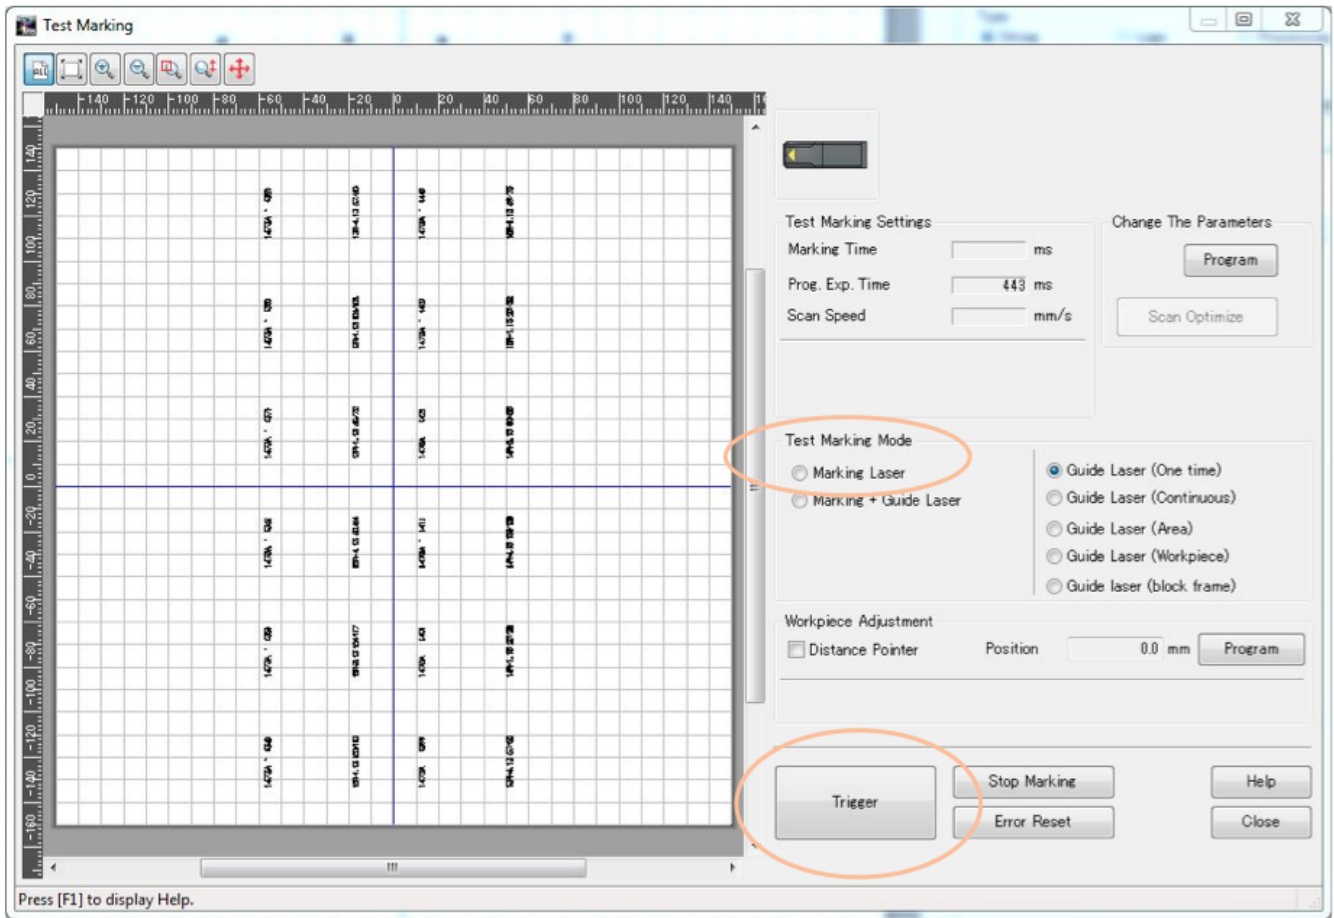

Figure 2: Layout of the template and panels for editing label and Marking Page
9. In the **Test Marking Window**, under the **Test Marking Mode**, select **Marking Laser** (Figure 2). When ready, click the **Trigger** button. This will engrave the Test Page.
10. Remove the engraved test page and review the text. Modify as needed and repeat steps above using a new bond paper (test page). Once everything is correct, make the actual engraving on the thin section slides: select **Marking Laser** and click **Trigger** (Figure 2).